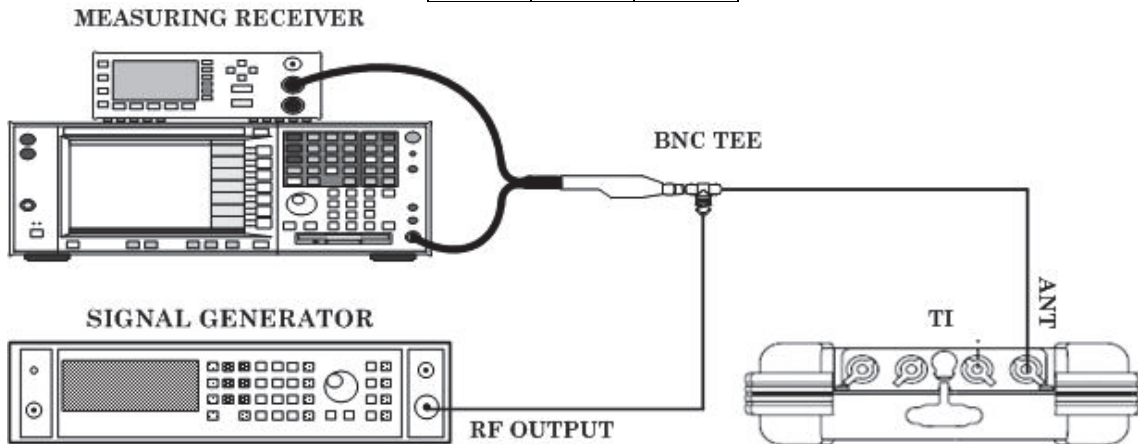

Figure 2. AM/FM meter setup.
- (1) Repeat paragraph 7 g to preset TI.
- (2) Press **MODE** until **COMM AM** mode screen is displayed.
- (3) Connect equipment as shown in figure 2.
- (4) Configure measuring receiver for a 400 MHz measurement.
- (5) Set signal generator output to 0 dBm adjust for a 400 MHz indication on measuring receiver.
- (6) Configure measuring receiver for AM measurement with 300 Hz HP and 3 kHz LP filters and **PEAK ± /2** detectors on.
- (7) Press **TI FREQ** and set **FREQ** to **400.0000 MHz**.
- (8) Set signal generator to AM with a 1 kHz modulation frequency.
- (9) Adjust signal generator AM modulation level until a measuring receiver indicates first value in table 28. **TI TX MOD** should indicate within the limits in table 30.
- (10) Repeat step (9) above for the remaining settings in table 30.
- (1) Press the following TI keys, as needed, in (a) through (e) below.
- (2) Connect equipment as shown in figure 2.
- (3) Set signal generator to -20.0 dBm at 165 MHz.
- (4) Configure measuring receiver for a 165 MHz measurement.
- (5) Set signal generator FM on and modulation frequency to 400 Hz.
- (6) Configure measuring receiver for FM measurement with 50 Hz HP and 3 kHz LP filters on.
- (7) Vary signal generator FM deviation frequency until measuring receiver indicates the first setting in table 31. If **TX DEV** does not indicate within the limits in table 31, perform b below.
- (8) Repeat step (7) above for the remaining FM settings in table 31.